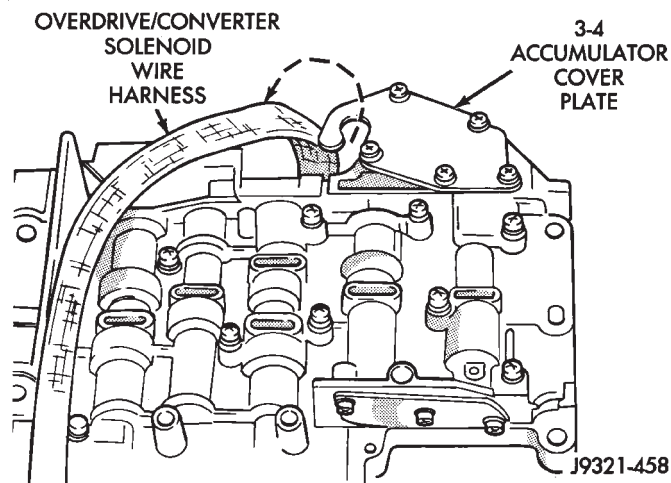

Fig. 39 Unhooking Solenoid Harness From Accumulator Cover Plate
(9) Unhook overdrive/converter solenoid harness from 3-4 accumulator cover plate (Fig. 39).